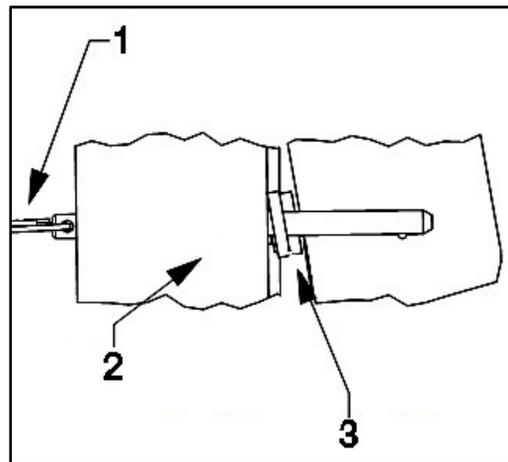

Fig. 17: Folding legs for storage
3. Separately lift each of the legs and rotate them until they are vertical. Insert the leg positioning pin into the leg and then through the leg storage bracket as shown in Fig. 17. Ensure that the pin has secured the leg onto the leg storage bracket and that the leg positioning pin is fully inserted into the leg.